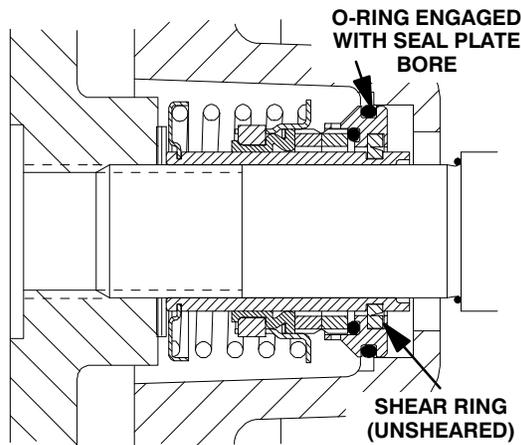

Figure 10. Seal Partially Installed
Install the set of impeller shims (4) provided with the seal and install the impeller key (33) in the shaft keyway. Position the impeller keyway over the impeller key and press the impeller onto the shaft until it is seated against the seal (see Figure 10).